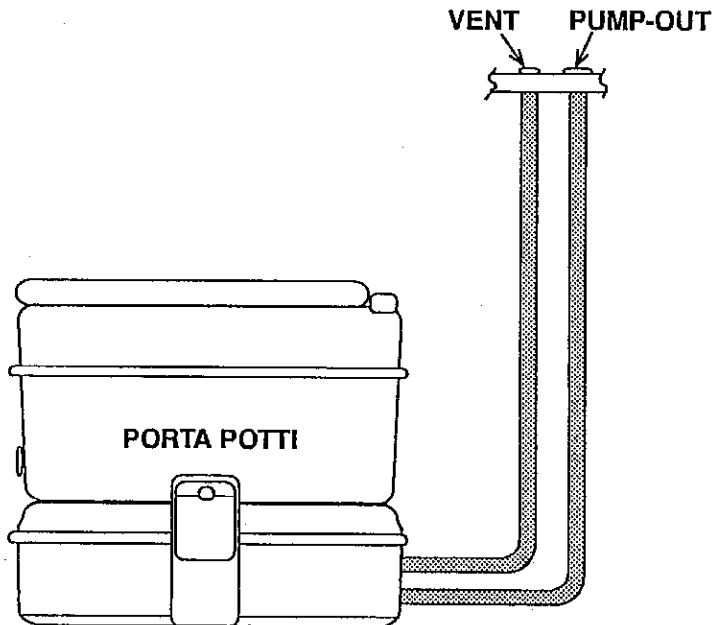

FIGURE 2.7 - MARINE HEAD WITH PUMP OUT
The Marine Sanitation Device (MSD), or head, installed on your Glastron boat, is similar to your home toilet. There are three (3) MSD illustrations depicting the various head configurations which may be installed on your Glastron boat (See Figures 2.7 through 2.9). Some units incorporate a Y-Valve that must be selected on the valve based upon your choice of directing waste. All MSDs are equipped with an air vent and pump-out plate.
MARINE HEAD WITH PUMP-OUT (SEE FIGURE 2.7)
This portable toilet (porta potti) provides simple operation and convenient disposal of waste. (See Figure 2.7) The waste can be either transported off the boat by removing the holding tank, or can be pumped out at dockside.